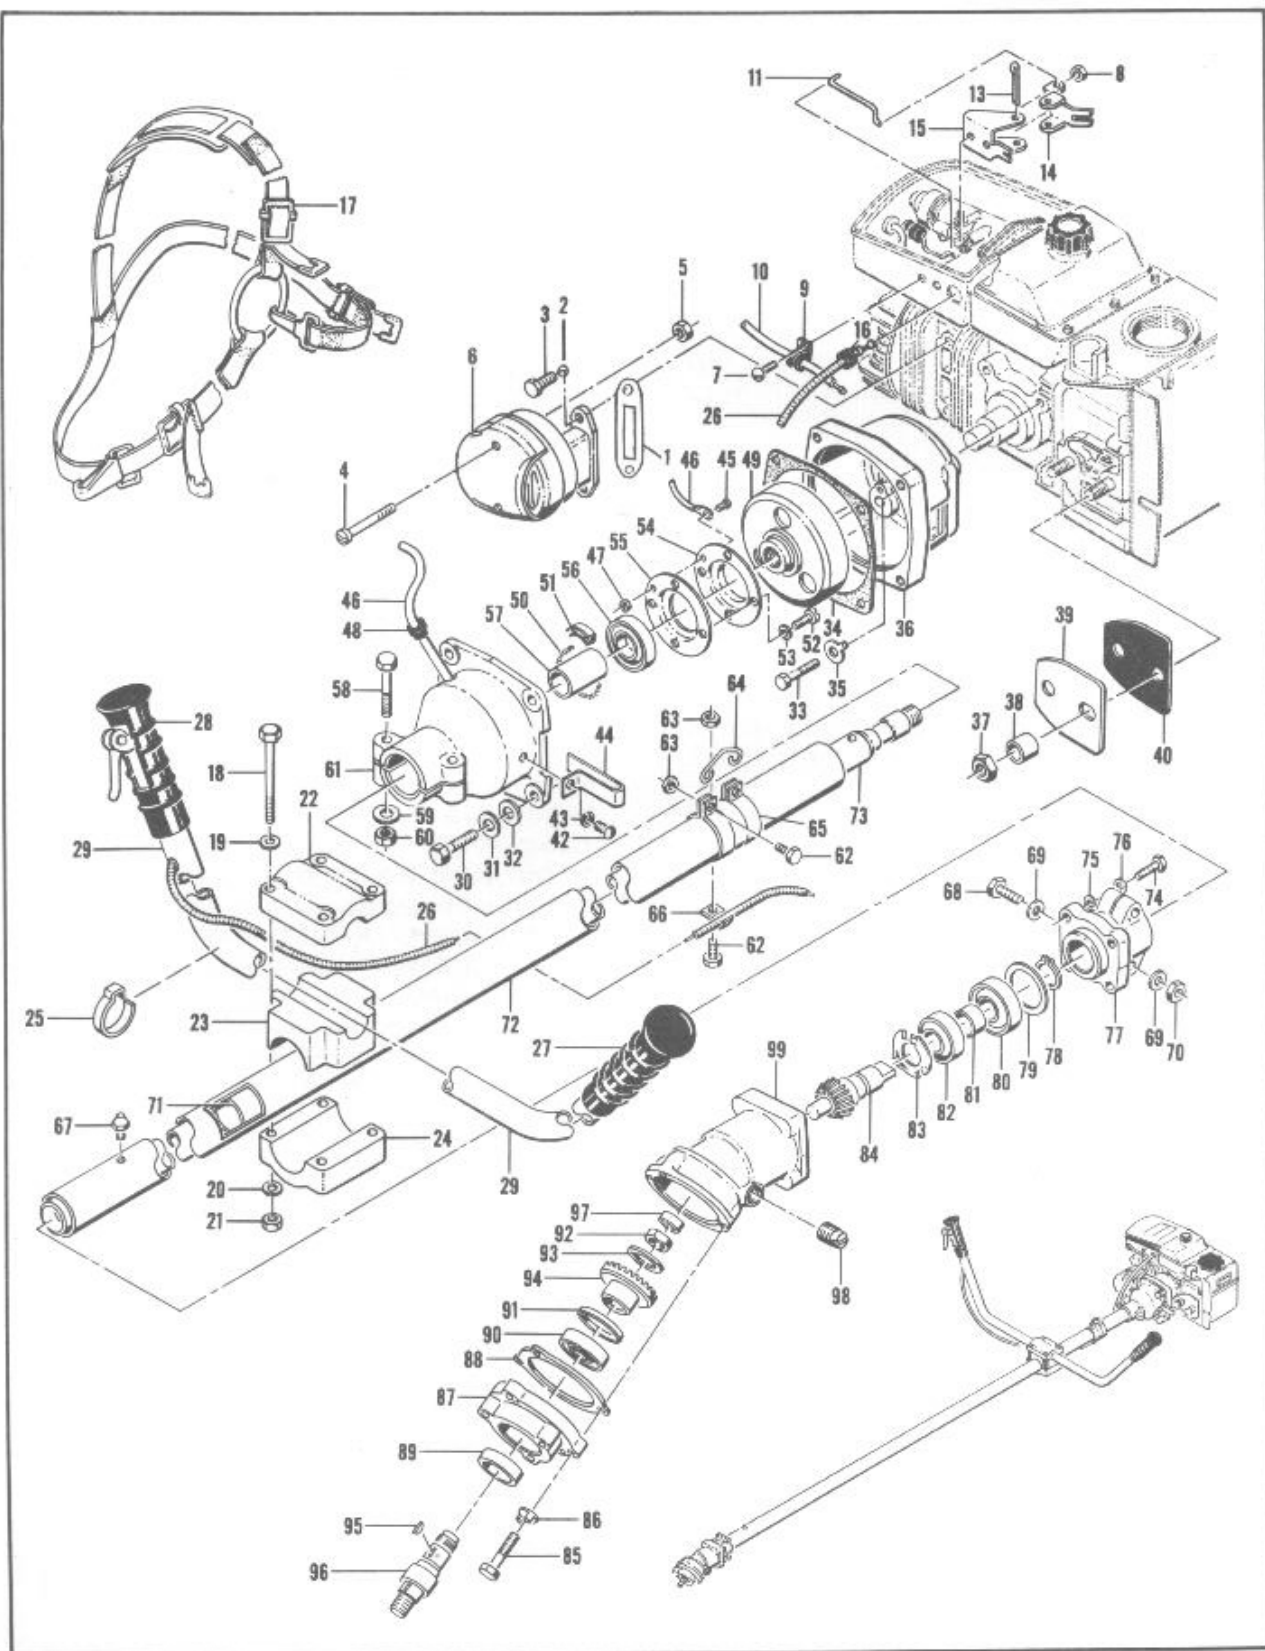

Figure 18. Exploded View 57600 Drive Unit and Accessory Kits
3. Install the Cover Plate Gasket (P/N 57437), Cover Plate (P/N 50485), and the Spacers (P/N 50484) on the bar mounting nuts and secure with two hex nuts (P/N 103729) (see Figure 18).
over the left shoulder; the stabilizing strap passes around the left side from the back and snaps onto the ring in front. The snap clamp with the roller, hooks on the harness hanger on the drive shaft housing (Figure 18).